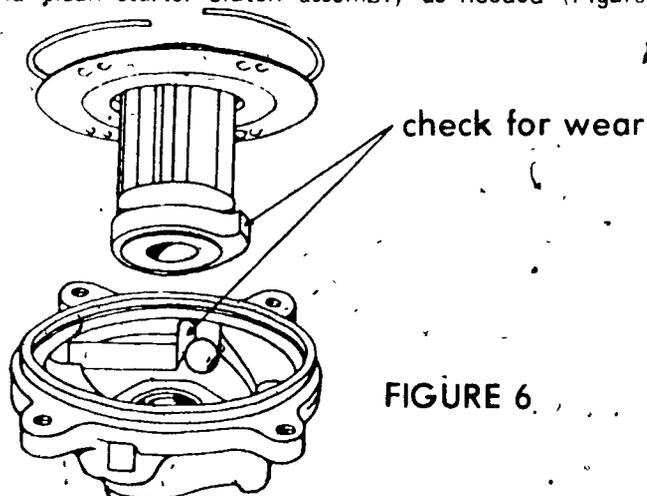

FIGURE 6
- O. Inspect and clean starter clutch assembly as needed (Figure 6)